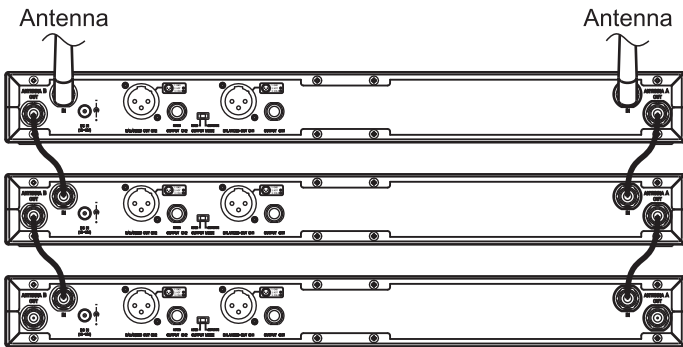

Fig. 5
(B) TNC connector for daisy chain output ⑫ can be daisy-chained up to three receivers (one master receiver plus two daisy-chained receivers) one by one for optimal reception quality. Fig. 5